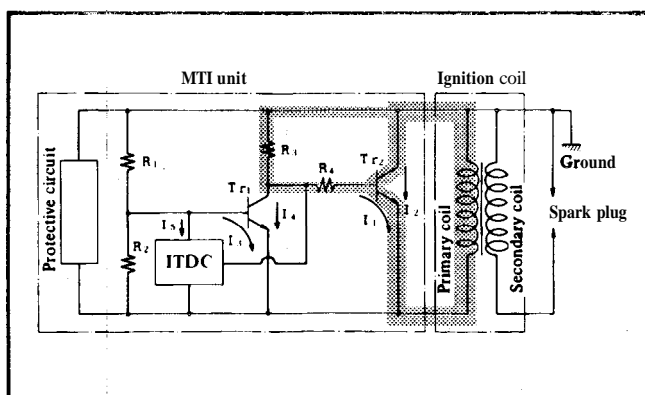

Figure 34
3. Current I_1 flowing through Tr_2 induces a larger current, I_2 . Note that current I_1 is very small and that I_2 is much larger. See Figure 34.